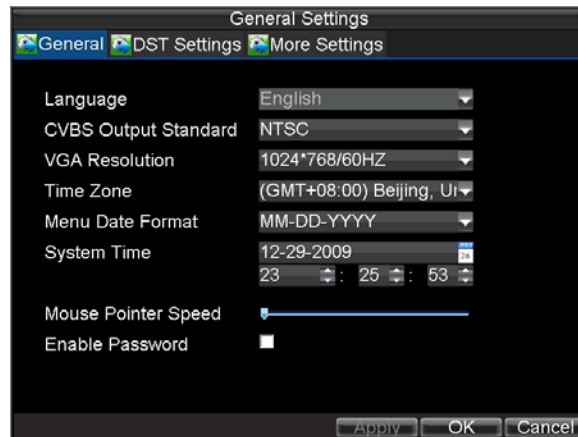

Figure 9. General Settings
3. Click the *General* icon. You will be taken to the **General Settings** window, as shown in Figure 9.